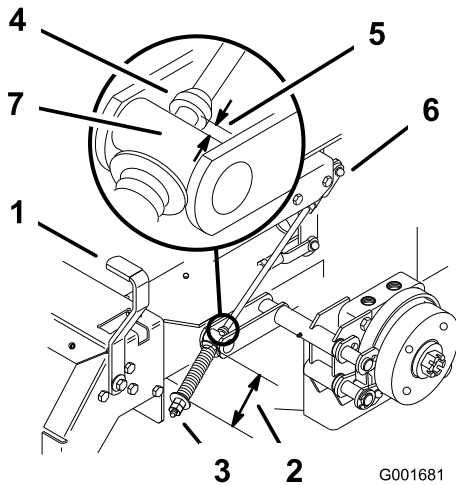

Figure 43
2. Measure the length of the spring; the measurement should be 2-3/4 inch (74 mm) between the washers (Figure 43).
- A. Loosen the jam nut below the spring and tighten the nut directly below the yoke (Figure 43).
6. Measure the distance between the trunnion roller and the collar on the brake rod. The measurement should be 3/16 to 1/4 inch (5 to 7 mm) (Figure 43).
- B. Turn the bottom adjusting nuts until the correct measurement is obtained (Figure 43).